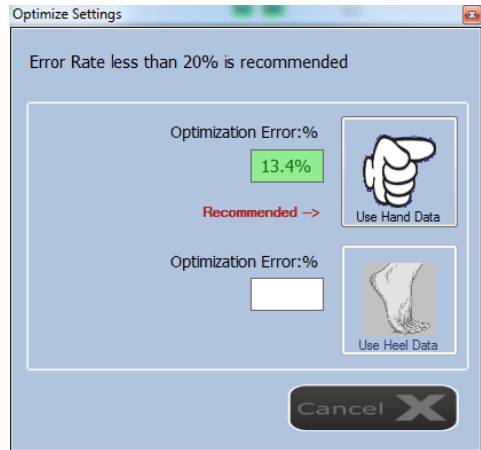

Figure 51: (Standard) Optimize operation completed
3. 'Optimize' - optimizes the calculated statistical settings in reference to Hand or Heel stimulations and calculates error rates. An error rate of less than 20% is recommended. Select the preferred reference signal and associated error by clicking either the Use Hand Data or Use Heel Data. (Figure 51)